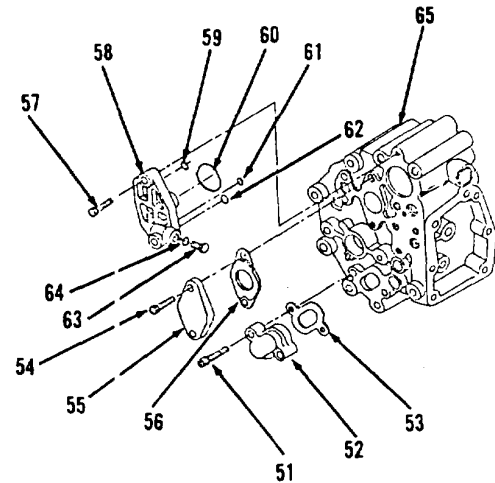
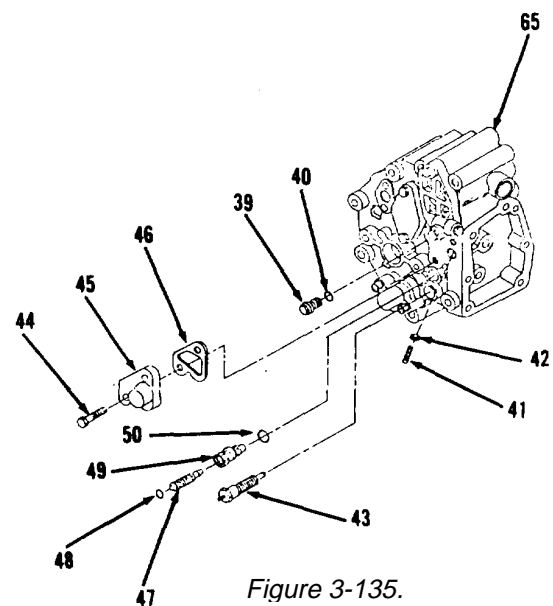

Figure 3-119.
Figure 3-135.
17. Install new preformed packing (64) and plug (63) in cover (58, Figure 3-119) to rear of governor housing.
18. Position new preformed packings (62 thru 65) and cover (58) on housing (65).
19. Install two bolts (57).
20. Install new gasket (56), cover (55) and two bolts (54).
21. Install new gasket (53), cover (52) and two bolts (51).
22. Install new preformed packing (50) on body (49, Figure 3-135).
23. Using clean oil, lubricate body (49) lightly to outer diameter and install in housing (65).
24. Install new preformed packing (48) on valve (47).
25. Apply clean oil lightly to outer diameter of valve (47) and install in body (49).
26. Install new gasket (46), cover (45) and two bolts (44).
27. Install insulator (43) and tighten to 40 lb-in torque.
28. Install nut (42) and screw (41).
29. Install new preformed packing (40) and plug (39).